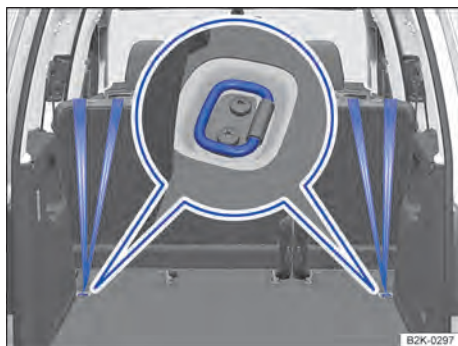

Fig. 46 Outer seats in the second row: top tether straps attached in the bolted fastening rings at the sides of the load compartment.
7. Hook the top tether strap of the child seat into the fastening rings → Fig. 46 or